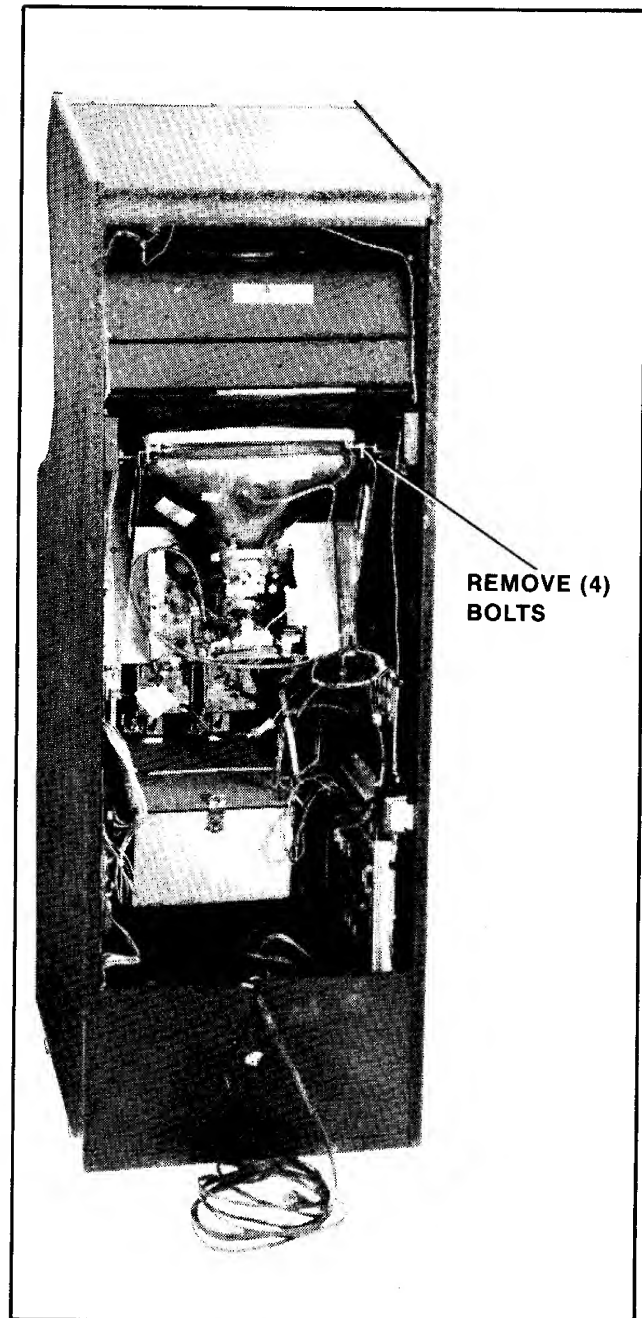

Figure 4-9 Removing Monitor — Mini
2. MINI MODEL: See Figure 4-9.
The monitor is removed by supporting it and pulling straight back as shown in Figure 4-9.